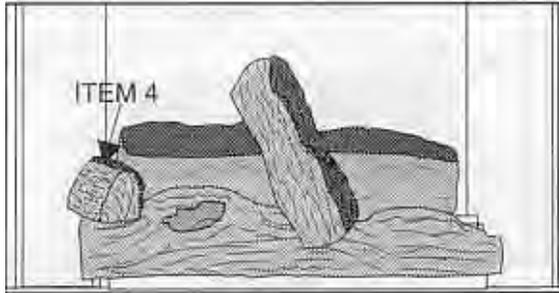

Figure 54
5. See **Figure 54**. One of the small straight logs (**Item 4**) is installed next. See **Figure 1** for identification. Position this log with the "bark" of the log to the right. Place one end of the log in the indentation on the left side of the front log. Rest the opposite end of the log on the Back Log Support, left of the Back Log.